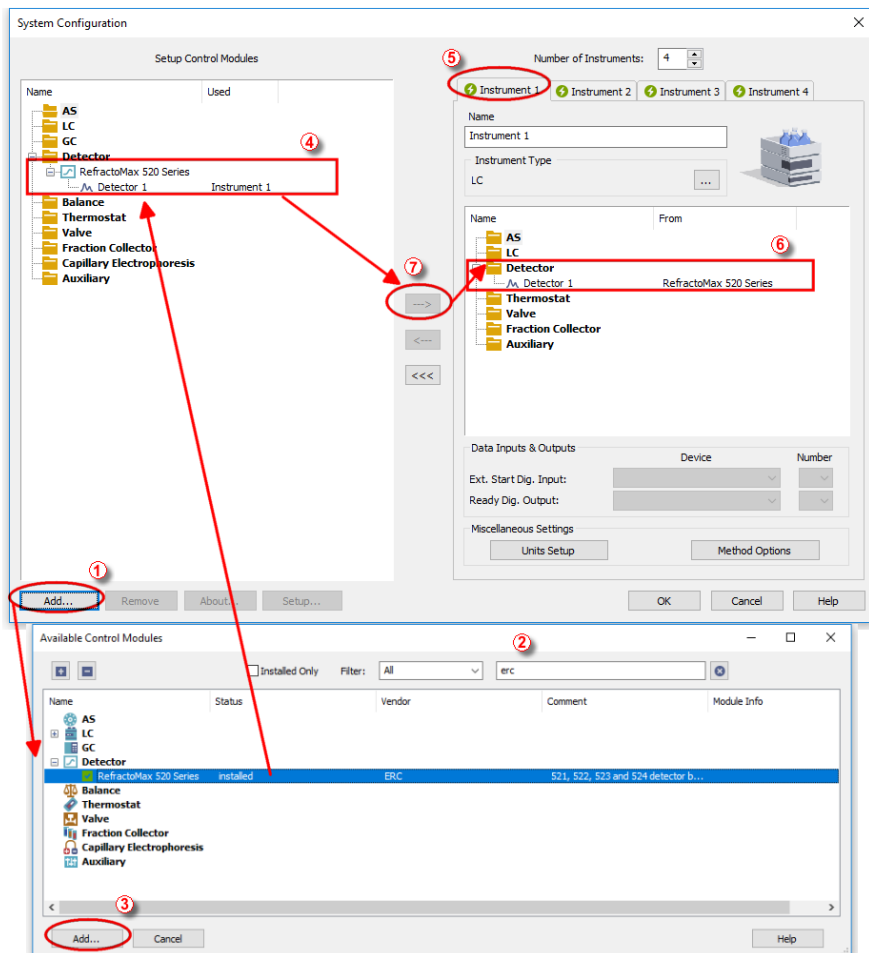

Fig. 3: How to Add ERC Refractomax 520 module
- Press the **Add** button (1) on Fig. 3 on pg. 4.) to invoke the **Available Control Modules** dialog.
- You can specify the search filter (2) to simplify the finding of the driver.
- Select the correct item and press the *Add* (③ on Fig. 3 on pg. 4.) button. Each device with already created UNI profile should have its own item named accordingly in the *Available Control Modules* dialog.